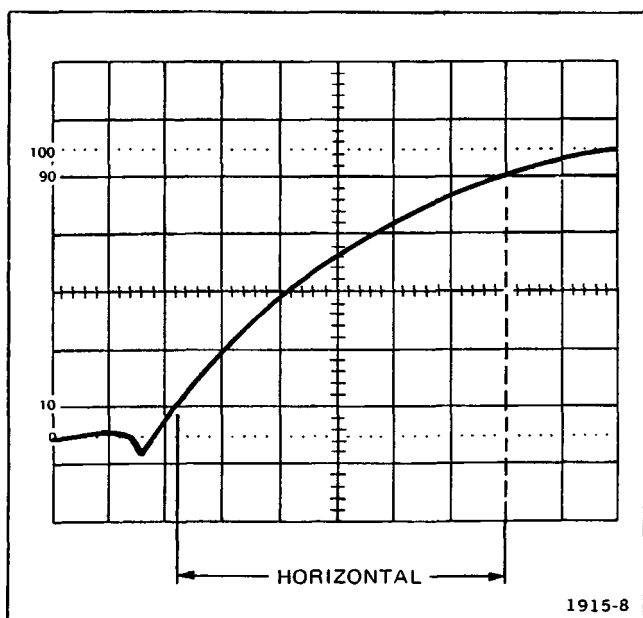

Fig. 2-10. Measuring risetime.
7. Adjust the horizontal POSITION control to move the 10% point of the waveform to the second vertical line of the graticule (see Fig. 2-10).
EXAMPLE. Assume that the horizontal distance between the 10% and 90% points is six divisions (see Fig. 2-10) and the TIME/DIV switch is set to 1 μ s.